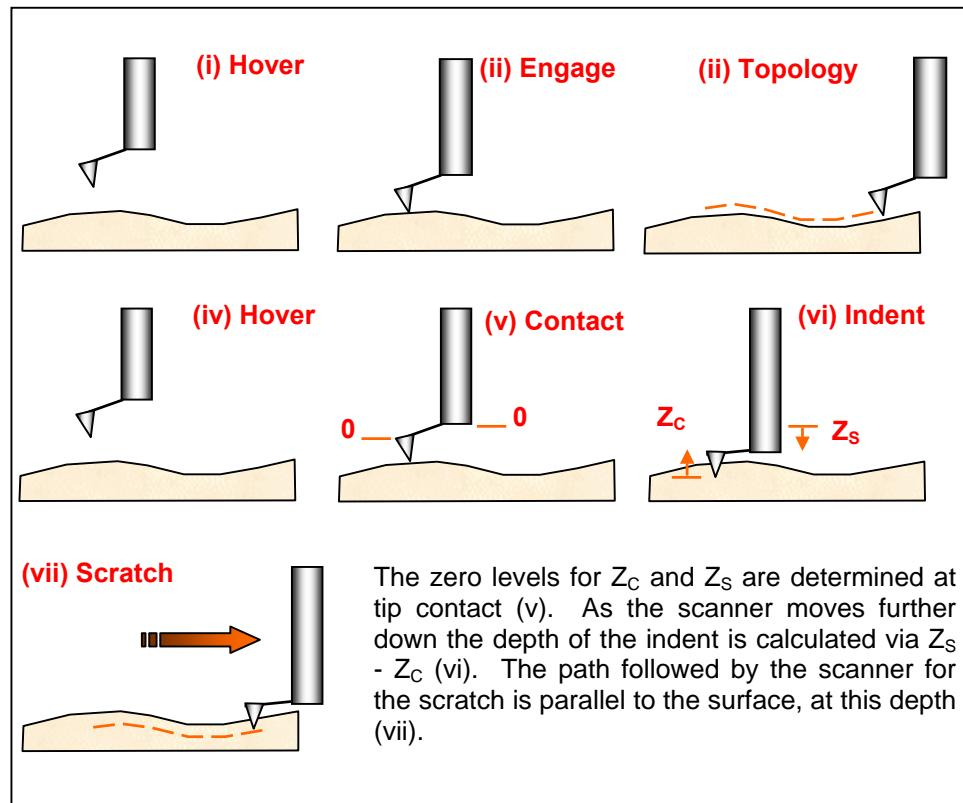

Figure 10-4 The steps in performing a Depth-controlled scratch.
- Selecting *Depth (nm)* produces a surface scratch with the probe following a programmed path along the sample surface. The scratch is performed in a two-pass process. Refer to Figure 10-4 below. In the first pass, starting from the initial *Hover* state, the probe is engaged with the surface in the normal way for surface imaging and then the probe is moved along the scratch path to record the surface profile along that line (*i-iii*). The first pass concludes with the tip being returned to the initial xy position for the scratch and lifted back to the *Hover* z position (*iv*). In the second pass, the tip is loaded onto the surface until the tip of the probe is pushed below the nominal sample surface by the distance specified by the *Initial* parameter (*v-vi*). This initial depth position is determined by calculating the difference between the upward deflection of the cantilever Z_C and the